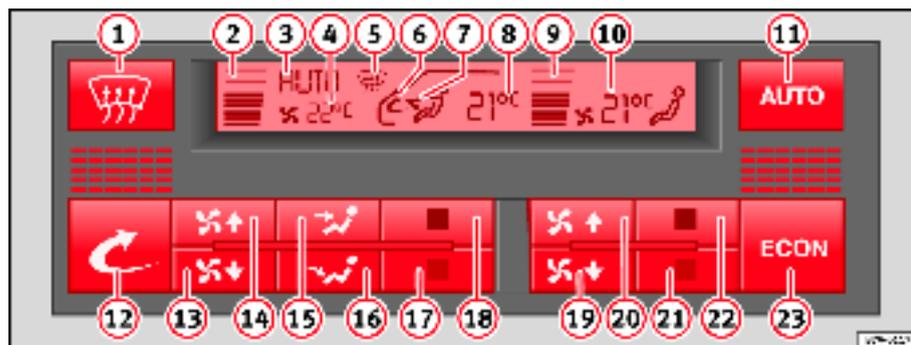

Fig. 118 Instrument panel: Climatronic controls
- Press one of the air distribution buttons ⇒ fig. 118 15 or 16 several times, or one of the temperature buttons 17 or 18. **AUTO**
- Press the button  page 154, fig. 118  to switch air recirculation mode on or off. This is ON if the symbol   is displayed on the screen.